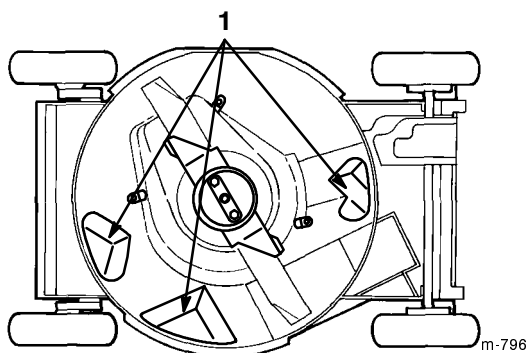

Figure 22
To ensure the best performance, keep the underside of the lawn mower housing clean. Be especially careful to keep the kickers free of debris (Fig. 22).
3. Tip the lawn mower onto its **right** side (Fig. 22).